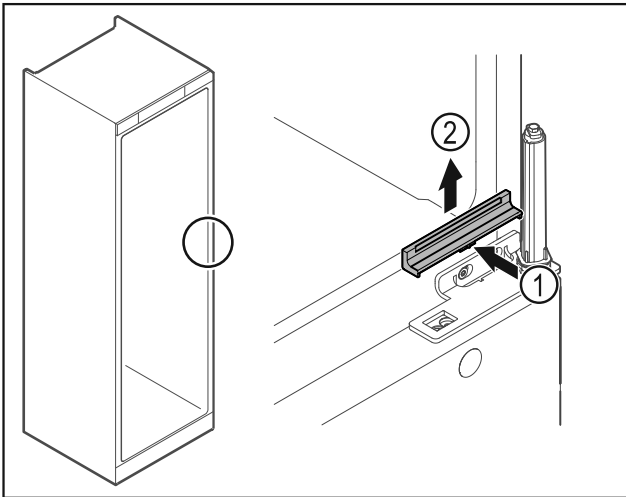

Fig. 23
- ▶ Gently press the middle of the cover Fig. 23 (1) and lift it off Fig. 23 (2).